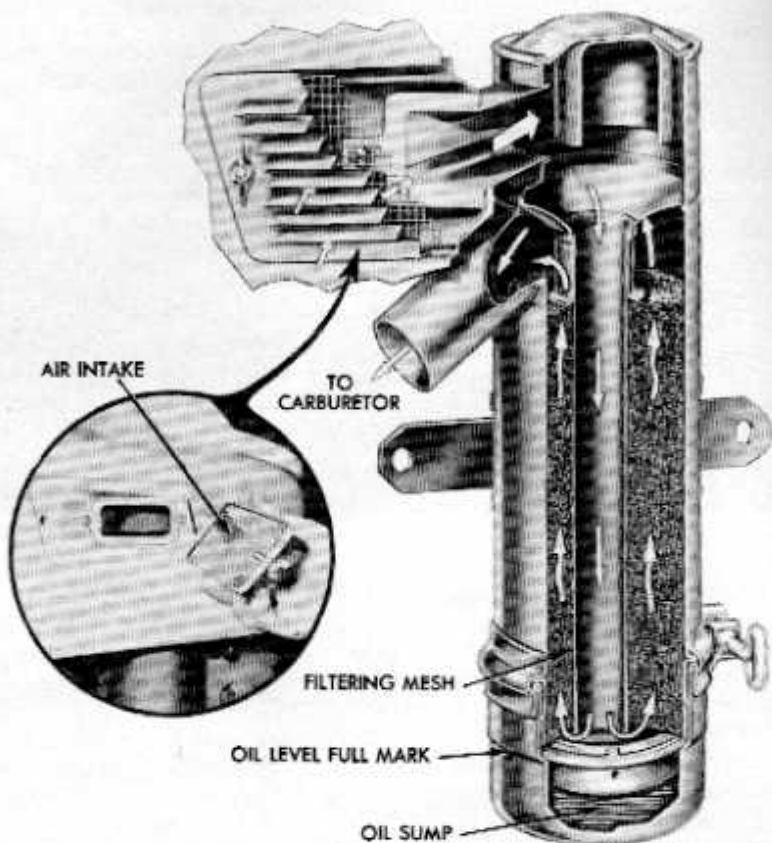

Figure 34
**Carburetor Air Cleaner:** Regular service of the oil bath type air cleaner is extremely important in prolonging the engine life of your tractor. See the section on LUBRICATION, under Service Daily or Every Ten Hours, for proper servicing of the air cleaner. Figure 34 shows the passage of air through the intake screen, oil bath, filtering mesh and to the carburetor.